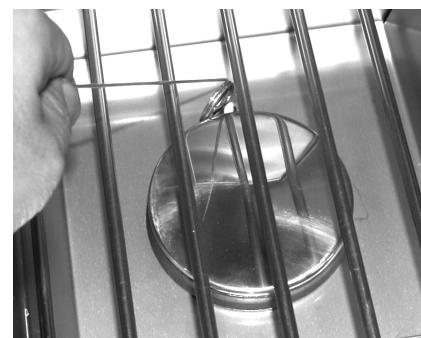

Fig. 27-2 Manual lighting
2. Insert either a burning long-barrel butane lighter, a burning long-stem match, or a burning match held by a wire extension holder through the cooking grid opening to the burner (Fig. 27-2). Hold the flame against the edge of the burner.
4. If the burner does not light within five (5) seconds of turning the control knob, **immediately depress the knob and turn the valve to OFF**. WAIT FIVE (5) MINUTES before repeating steps 2 through 4 of the MANUAL LIGHTING instructions.